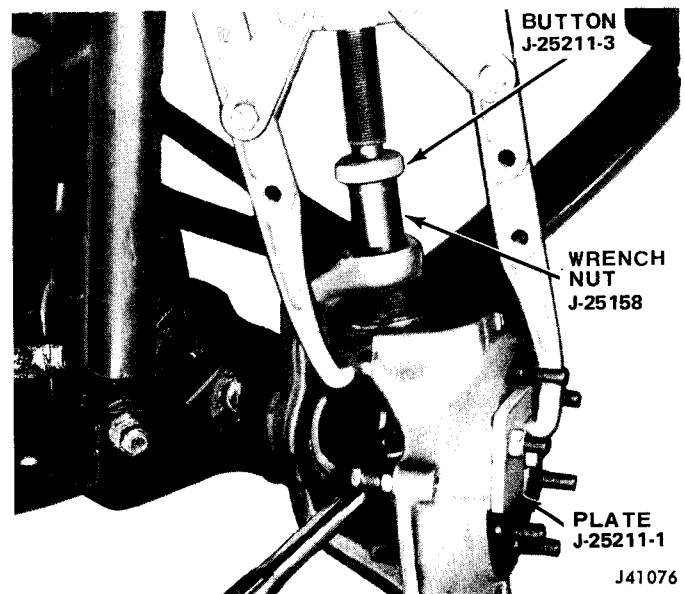

Fig. 10-11 Steering Knuckle Installation
(1) Install upper ball stud seat into axle yoke. Top of stud seat should be flush with top of yoke.
(2) Install knuckle assembly onto axle yoke. Install lower stud nut. Hand-tighten nut only. Position and align Nut Wrench J-25158, Button J-25211-3, Plate J-25211-1, and Puller J-25212 (fig. 10-11). Tighten puller screw until lower ball stud is held firmly in its seat. Tighten lower stud nut to 75 foot-pounds torque (85 foot-pounds torque on CJ models). Remove puller and plate.